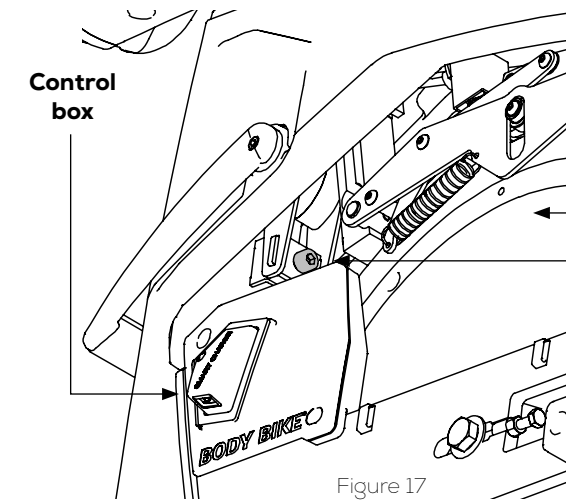

Figure 17
2) Locate the adjustment bolt, just above the control box. See figure 17.